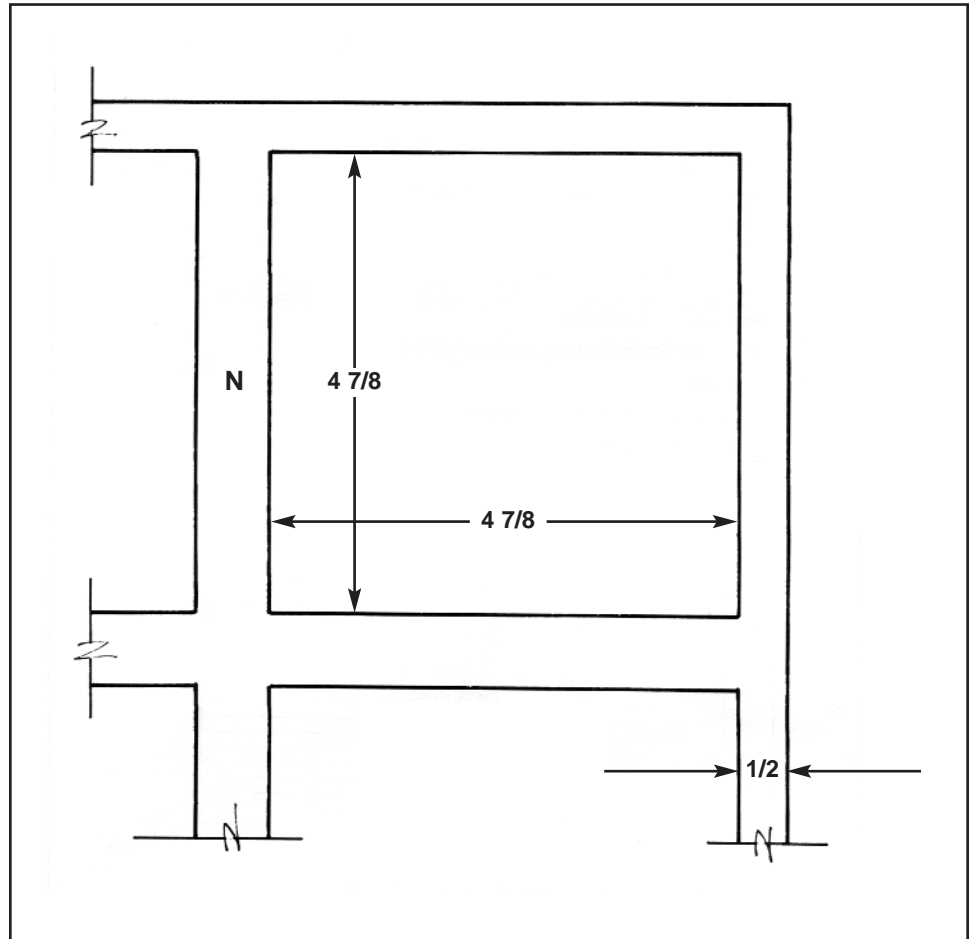

Figure 7
8. Drill a large hole in one of the panels. Use a jigsaw or scrollsaw to cut out the six openings in board N. Refer to Figure 7.